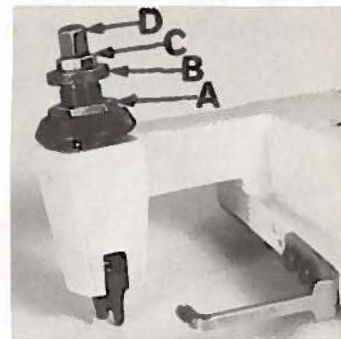

Fig. 2
Sufficient presser foot pressure to feed work uniformly should be maintained. Should it be necessary to increase or decrease amount of pressure on presser foot, loosen lock nut (A, Fig. 2) and turn adjusting screw (B). Adjusting screw has a right hand thread so tightening increases pressure, loosening decreases pressure. When pressure adjusting screw (B) has been properly set, tighten lock nut (A). With presser foot resting on throat plate, position locking nut (C) so that its under surface is approximately $1/32$ inch to $1/16$ inch (.79 to 1.59 mm) from the top surface of adjusting screw (B). Set cap (D) against locking nut (C).